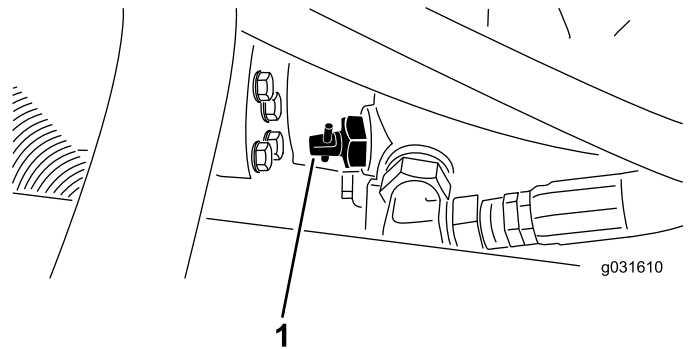

Figure 24
1. Locate the bypass valve on the pump (Figure 24) and loosen it by rotating 90° (1/4 of a turn).